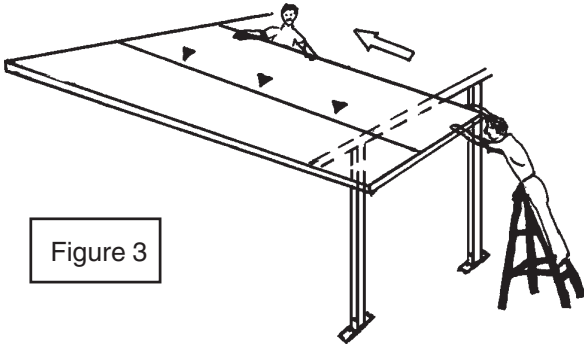

Figure 3
2. Install posts and front support beam, allowing for overhang and a minimum slope of ¼" per foot. *(See Figure 3.)*
4. Install the first panel into position, with the Male side towards the outside perimeter. *(See Figure 3.)*
5. Run a thin bead of sealant in the top channel of the Male end and snap second panel into place and slide into wall hanger. Repeat for all panels. *(See Figures 3 and 5.)*